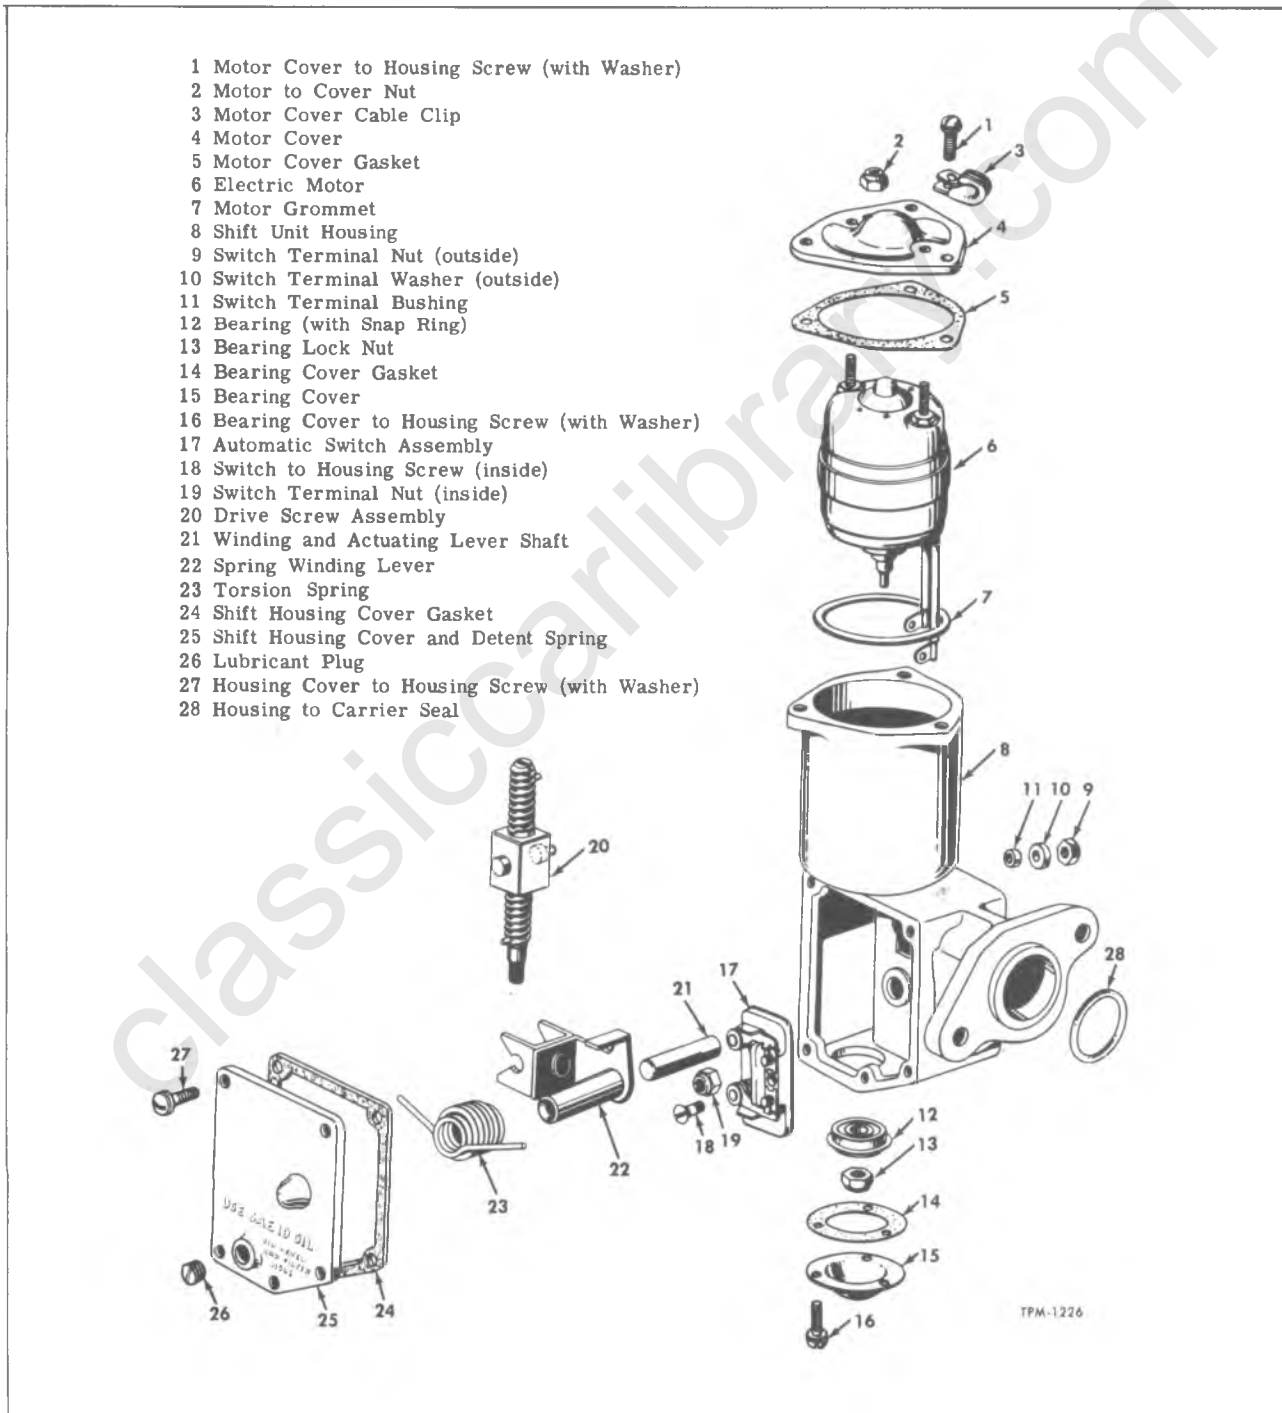

Figure 18—Electric Shift Unit Components (Rockwell)
1. Remove five screws from shift unit housing cover (25) (refer to fig. 18), then remove cover. This also drains the lubricant. After cover is removed, note that drive screw nut is either at top or bottom (fig. 3) depending on whether axle is in "HIGH" or "LOW" range position.
11. Do not disassemble the shift fork actuating lever (22), torsion spring (23), and spring winding lever (24) unless necessary to replace one of the parts. If necessary to disassemble, mount assembly in vise as shown in figure 18. Turn spring winding lever (24) clockwise and pull to separate.
## DISASSEMBLY (ROCKWELL) (Refer to Fig. 18)
Key numbers in text refer to figure 18.